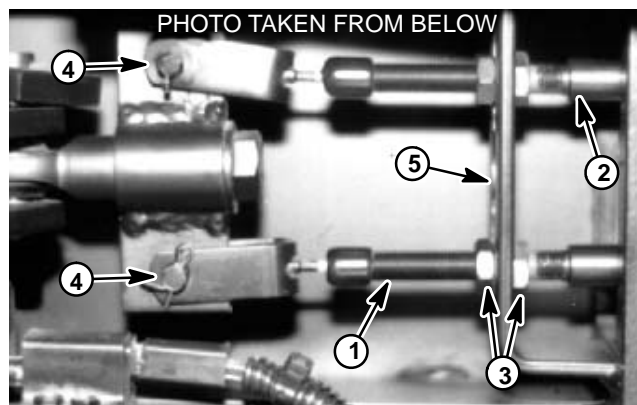

Figure 10
1. Remove brake cable from brake equalizer at front of machine under floorboard (Fig. 10 and 11):